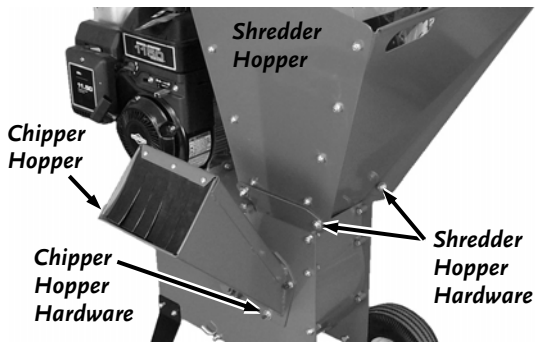

Figure 21
1. Use two 1/2" Wrenches to remove the Shredder Hopper (**Figure 21**).